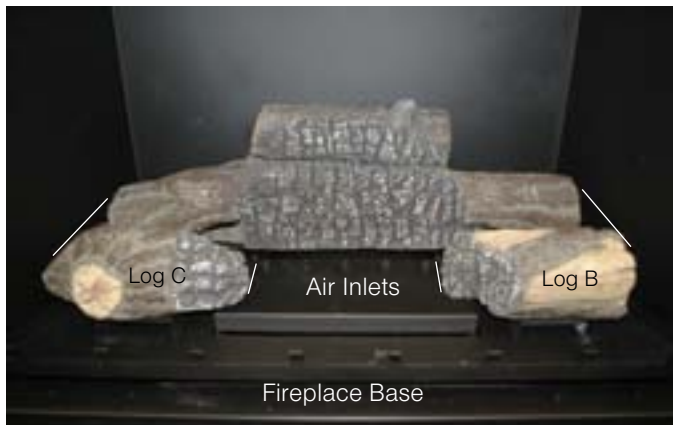

Figure 25a. Left front Log, (Log C) and Right front Log, (Log B).
Step 2. Place the bottom Rear log (Log A) as shown in **figure 25a**.